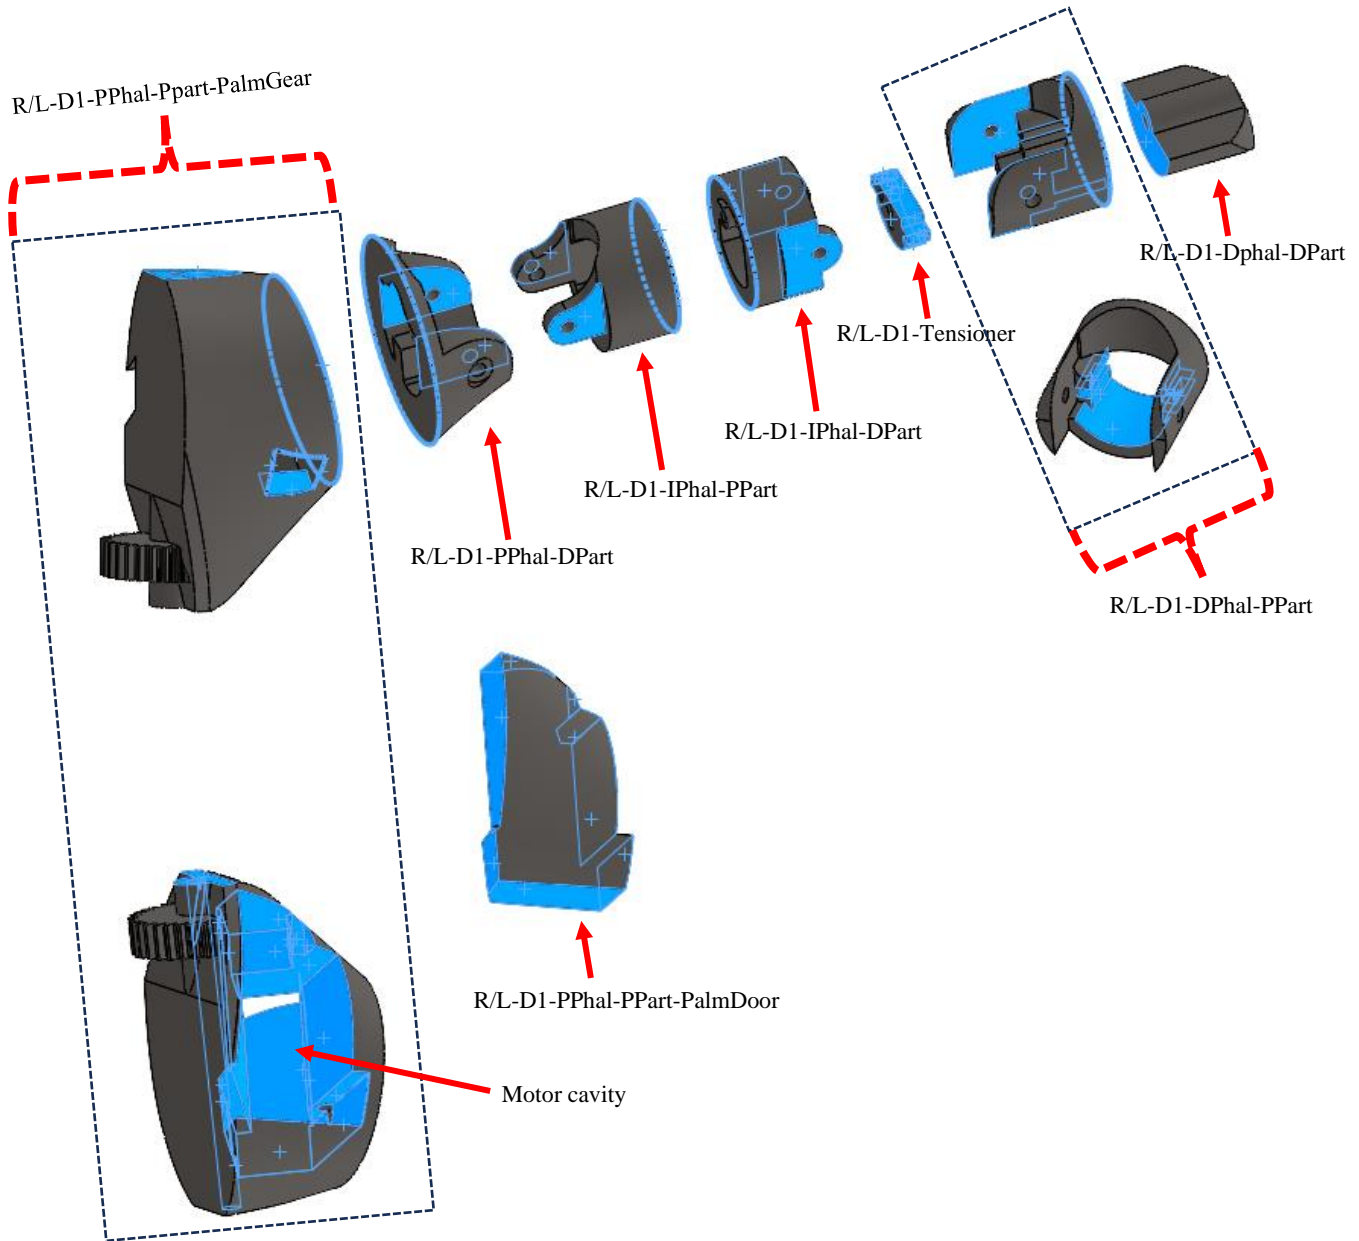

Figure 9: Thumb part locations for sanding
- Sand all faces as shown in **Figure 9** above. Ensure minimal interference to allow free sliding at the joint connection of **R/L-D1-PPhal-DPart** and **R/L-D1-IPhal-PPart** along with **R/L-D1-IPhal-DPart** and **R/L-D1-DPhal-PPart**.